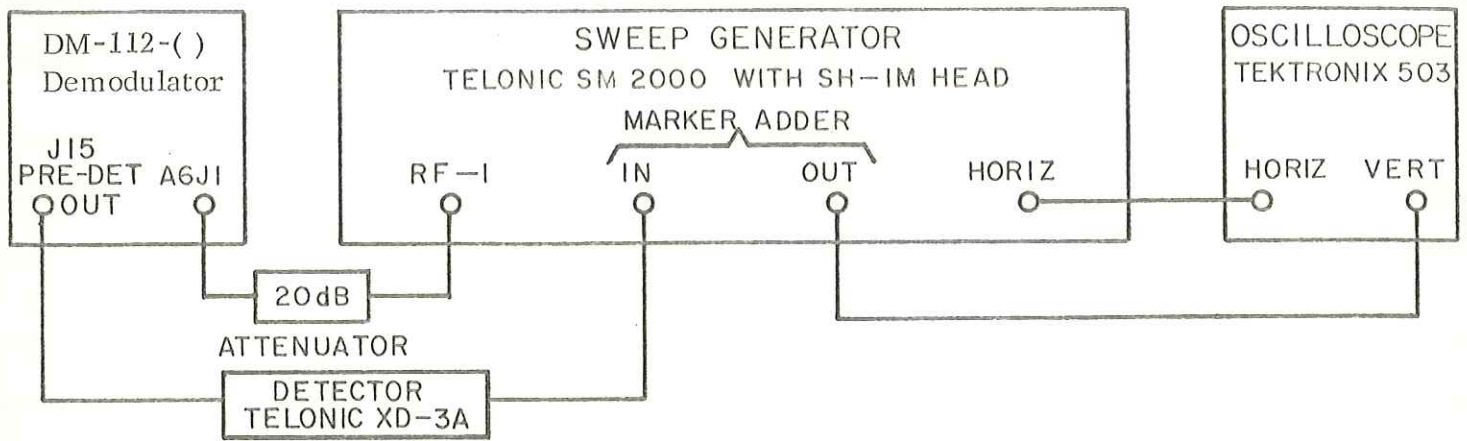

Figure 4-6. Test Setup, 160 MHz Limiter/Discriminator Alignment (A7)
- (1) Connect the equipment as shown in Figure 4-6.